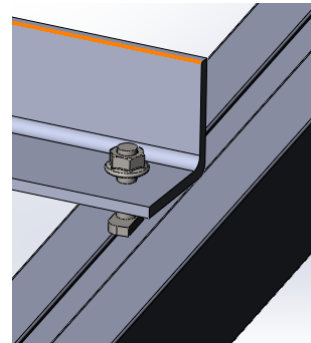

Fig. 16
4.5.2 Fasten the bolts slightly after the installation position is determined as shown in Fig.16.